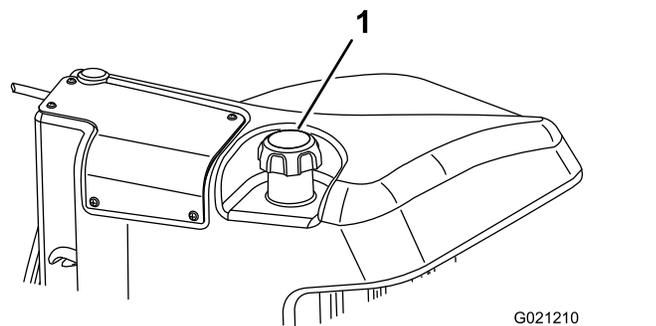

Figure 31
- Remove the cap from the fuel tank (Figure 31).